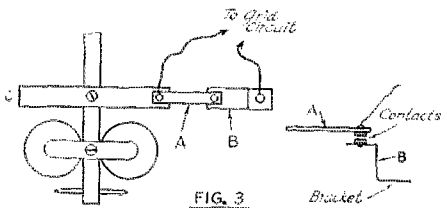

FIG. 3
An additional set of contacts should be used to open and close the grid circuit. The construction of a suitable insulating arm and contacts to fit this relay is shown in Fig. 3. By means of the screw which was used as the downward stop for the hammer, a piece of bakelite strip (C) 1/8 inch thick, 3/8 inches wide and 2 1/2 inches long is attached to the hammer. At one end of the strip a phosphor bronze spring A is bolted. Through the other end of the bronze spring a Ford spark coil contact is